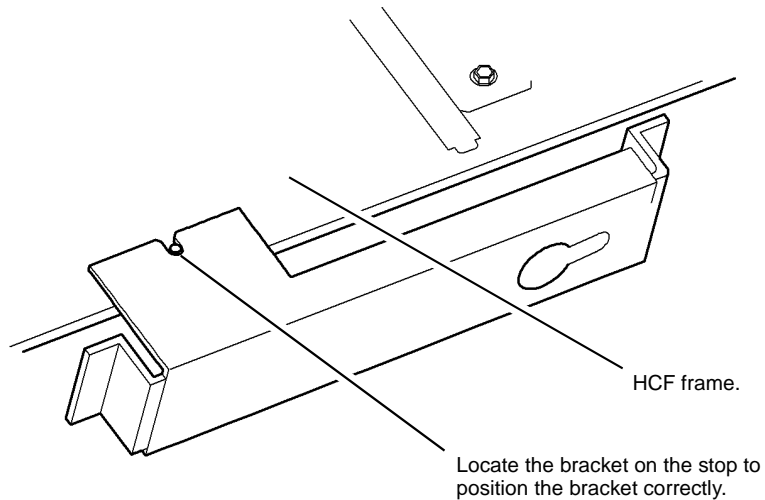

Figure 3 Motor bracket location
2. Check that the transport motor bracket is located on the stop on the HCF frame, Figure 3.